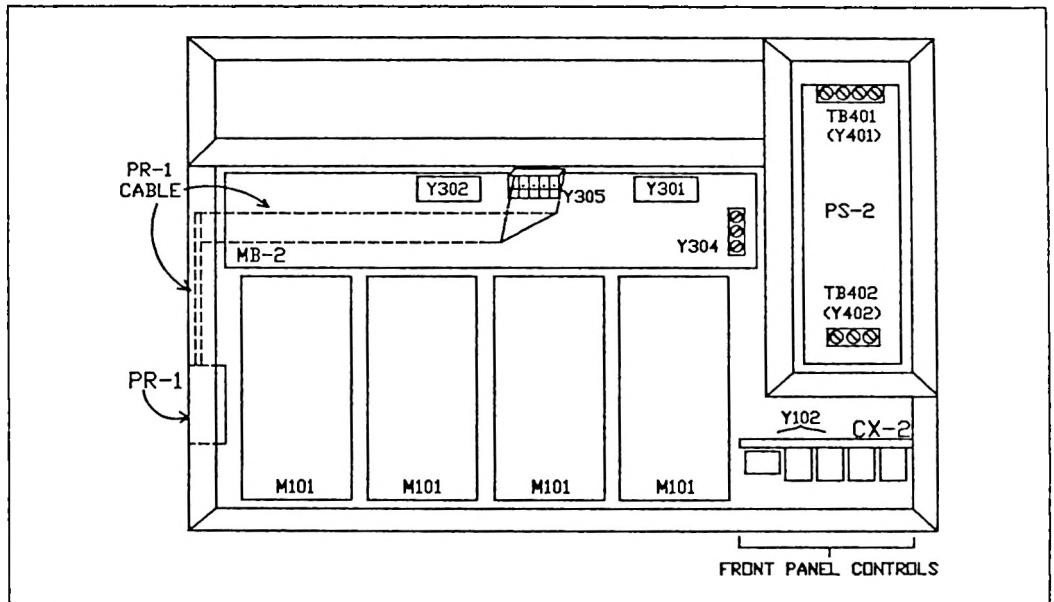

Figure 6-3
12. Carefully route the cable under the MB-2 motherboard as indicated in Figure 6-3, PR-1 Cable Routing, and reinstall the MB-2 motherboard using the nuts and lock washers previously removed.